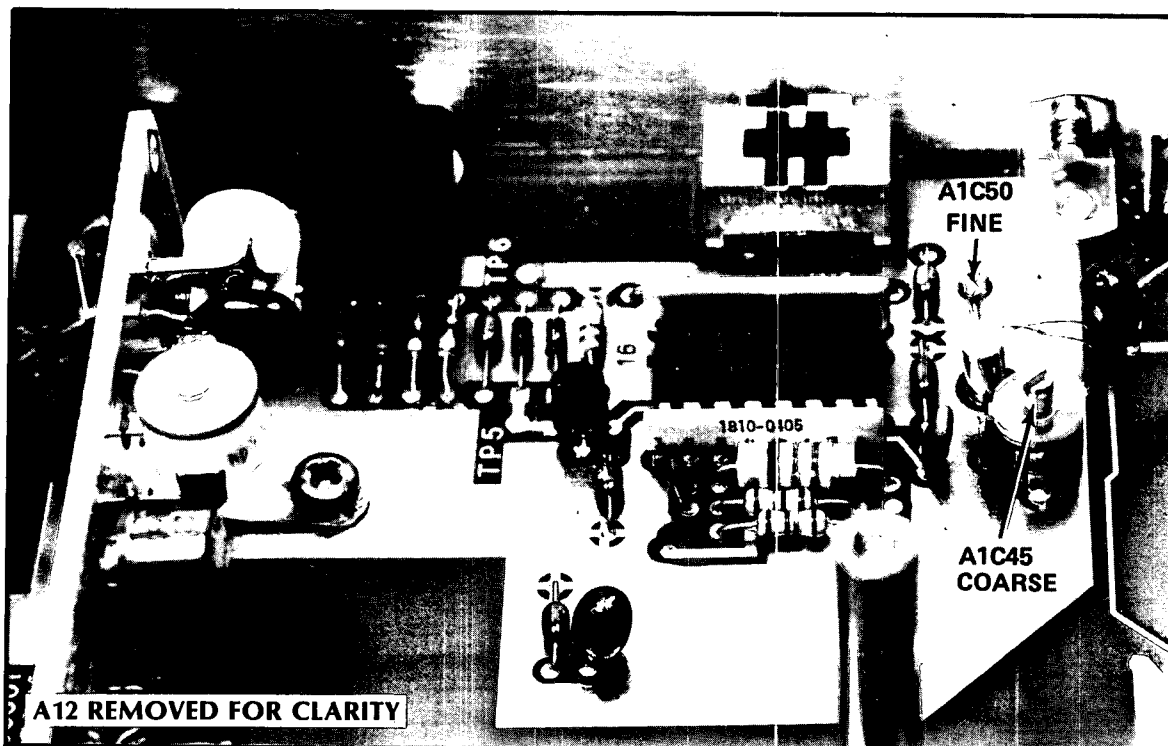

Figure 5-5. Injection-Locked-Multiplier Adjustment Location
- 5-19. The following adjustments set the lock range of the external reference input (see Figure 5-5).